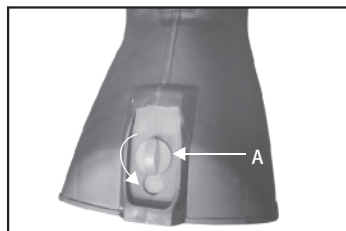

Fig. 5A
1. Rotate the rake knob (A) 90° anticlockwise and then the rake will automatically pop-up. (Fig. 5A)